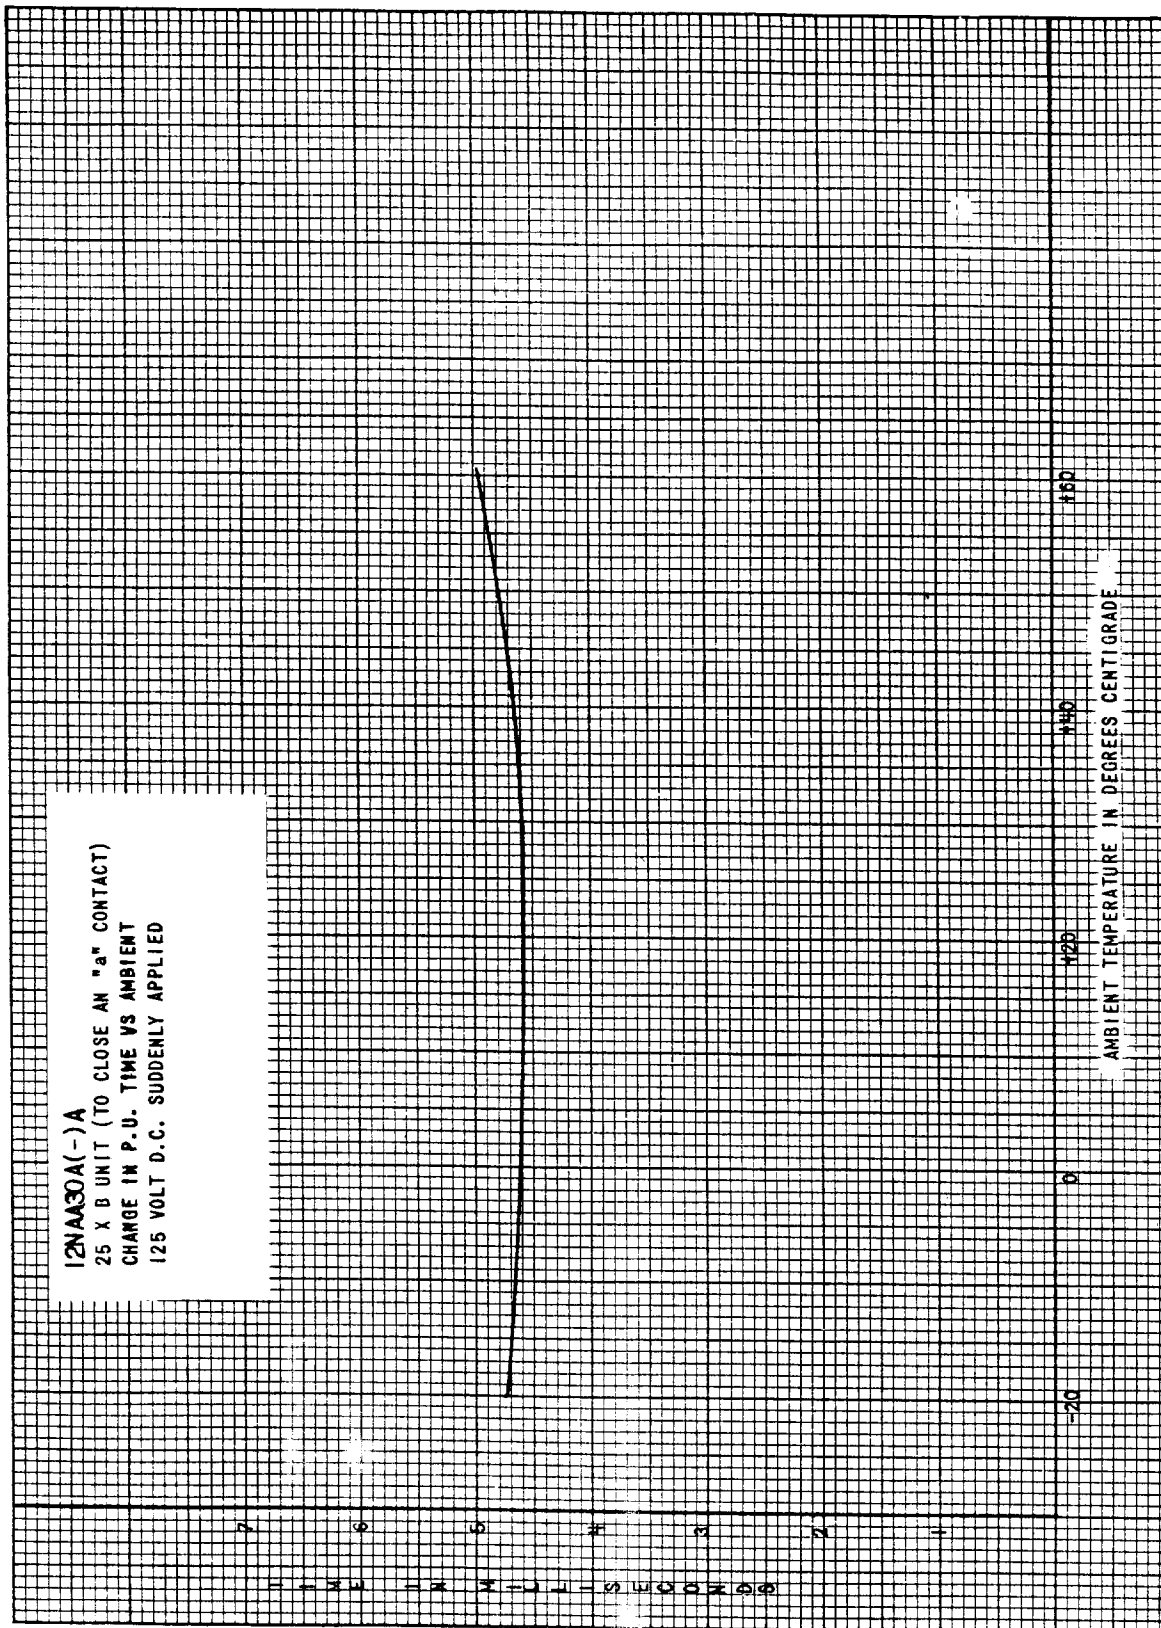

Figure 7 (0246A3806) 25XB Characteristic Curve
2. Figure 7 is the curve for the 25XB unit showing the change in pickup time versus ambient temperature from -20°C to $+60^{\circ}\text{C}$.